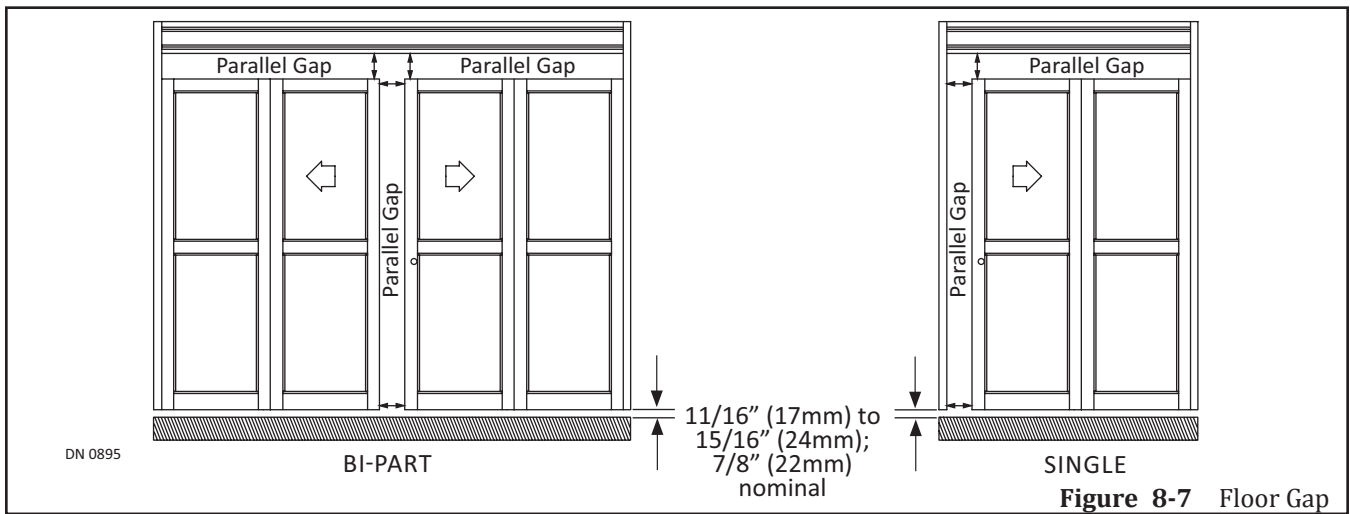

Figure 8-7 Floor Gap
2. Raise or lower the Slide door by turning the Axle clockwise with a 15/16" Open End Wrench. Please see Figure 8-7.